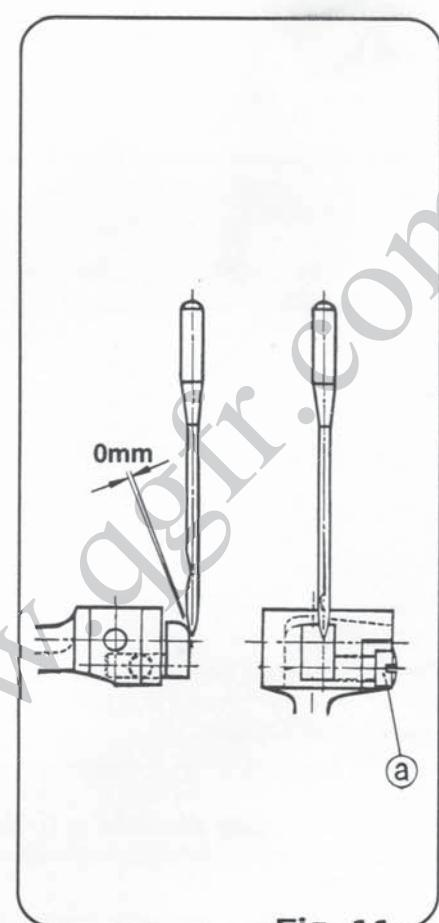

Fig. 11
When the stitch width is changed, the needle guide must be adjusted accordingly, as the clearance between the needle guide and the needle will change. Turn the pulley in the forward direction after loosening the screw ② of Fig.11 and adjust the clearance between the needle and needle guide to zero when the end of the looper comes to the side of the needle, as shown in (Fig.11) and tighten the screw ②.
\* 导针在最前进时, 如图11所示, 导针对针的间隔必须终于 0mm, 放松螺钉而调整。